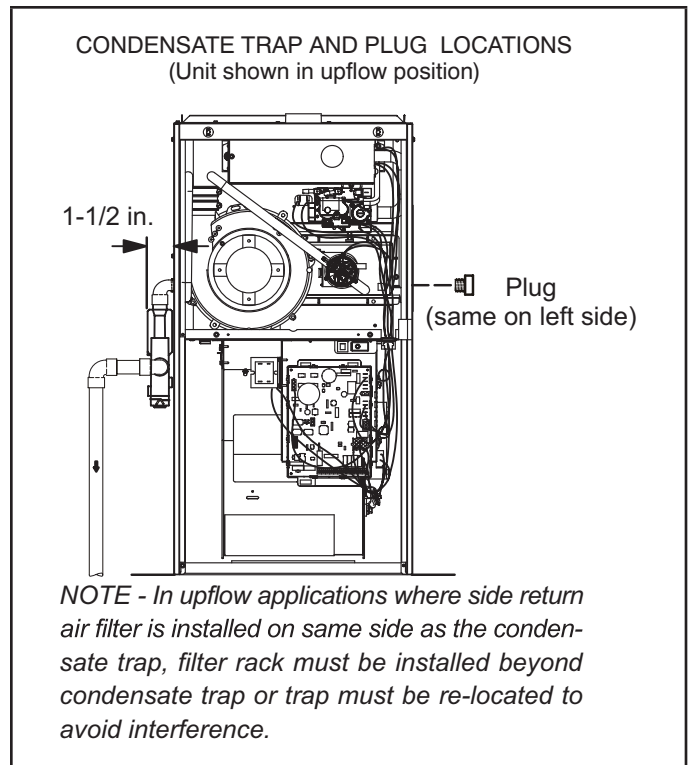
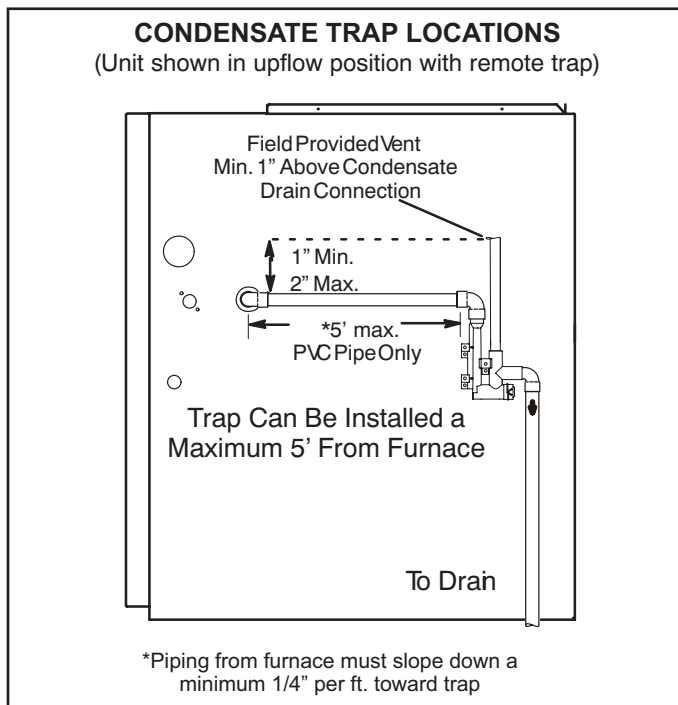
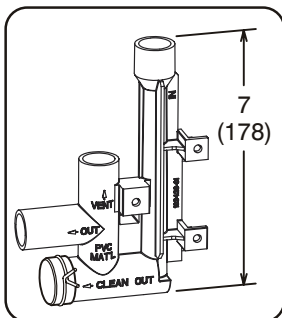

FIGURE 31
FIGURE 33
FIGURE 39
This unit is designed for either right- or left-side exit of condensate piping in upflow applications. In horizontal applications, the condensate trap must extend below the unit. An 8" service clearance is required for the condensate trap. Refer to FIGURE 31 and FIGURE 33 for condensate trap locations. FIGURE 39 shows trap assembly using 1/2" PVC or 3/4" PVC.
- 2 - Use a large flat head screw driver or a 1/2" drive socket extension and remove plug (FIGURE 31) from the cold end header box at the appropriate location on the side of the unit. Install provided 3/4 NPT street elbow fitting into cold end header box. Use Teflon tape or appropriate pipe dope.
- 3 - Install the cap over the clean out opening at the base of the trap. Secure with clamp. See FIGURE 39.
- 4 - Install drain trap using appropriate PVC fittings, glue all joints. Glue the provided drain trap as shown in FIGURE 39. Route the condensate line to an open drain. Condensate line must maintain a 1/4" downward slope from the furnace to the drain.